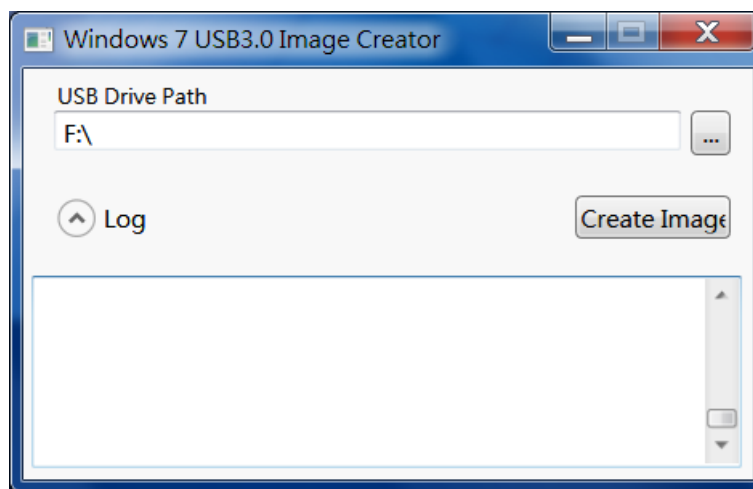

Figure 4-23: Windows 7 USB 3.0 Creator Utility
Step 6: The Windows 7 USB 3.0 Creator Utility screen appears (**Figure 4-23**). Click  to browse to the root of the USB drive containing the Windows 7 image.